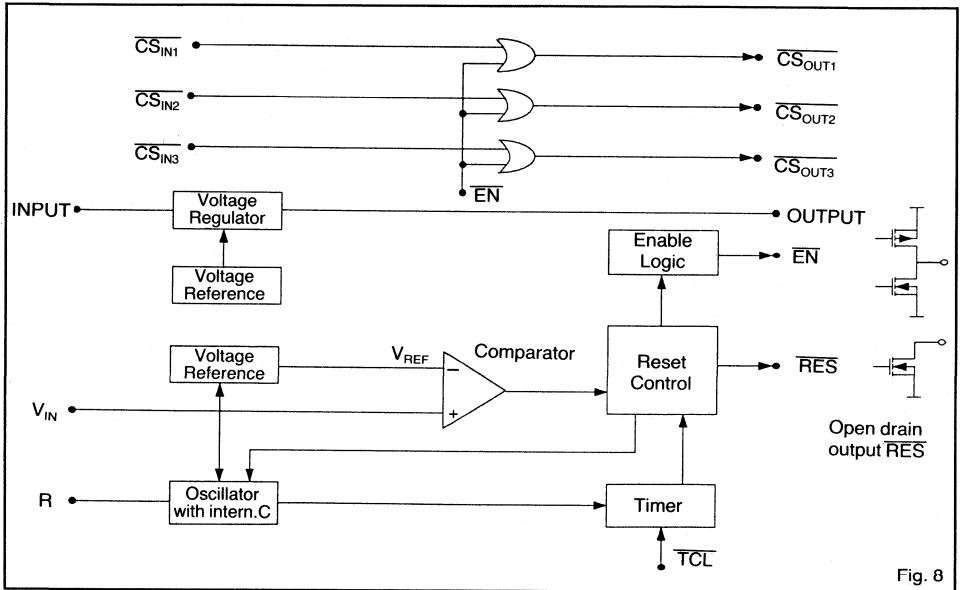

Fig. 8
6) The comparator and the voltage regulator have separate voltage references (see "Block Diagram" Fig. 8).